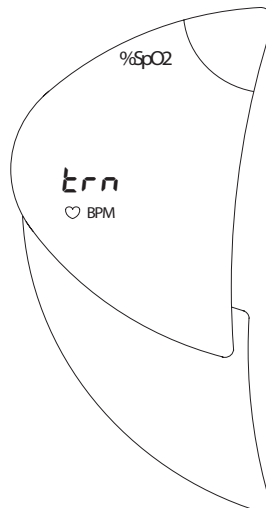

Figure 4.6: Trend Printing Mode display
- The SpO2 display will be blank and the heart rate display will flash **Err**. The oximetry function will be suppressed in this mode (see Fig. 4.6).